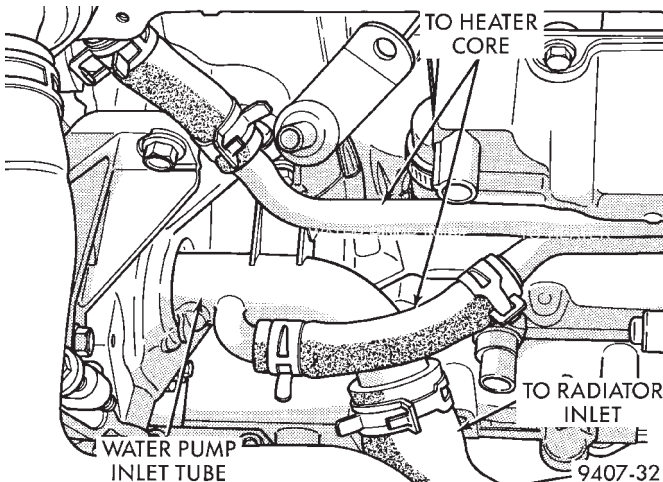
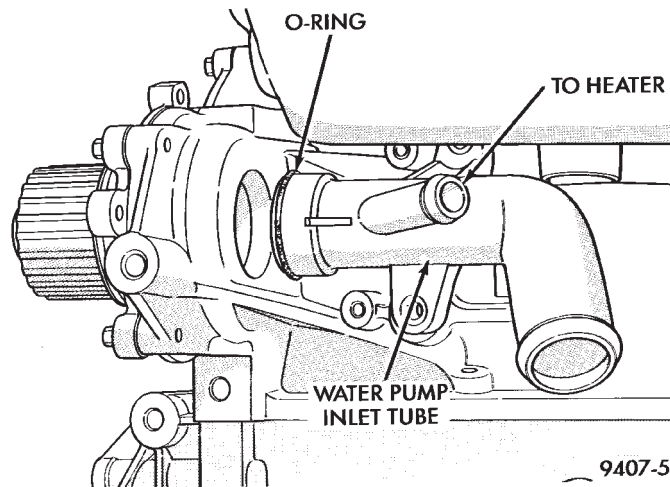

Fig. 27 Water Pump Inlet Tube Hose Connections
Fig. 28 Water Pump Inlet Tube—Service
- (1) Drain cooling system. Refer to procedure outlined in this section.
- (2) Remove upper radiator hose to access the hose connections at the inlet tube.
- (3) Remove lower radiator hose and heater hose from the inlet tube (Fig. 27).
- (4) Remove the 2 fasteners from that hold the inlet tube to the block.
- (5) Rotate tube while removing the tube from the engine block (Fig. 28).
- (1) Inspect the O-ring for damage before installing the tube into the cylinder block (Fig. 28).
- (2) Lube O-ring with coolant and install into the cylinder block opening.
- (4) Connect lower radiator hose and heater hose to inlet tube (Fig. 27).
- (5) Install upper radiator hose.
- (6) Fill cooling system. Refer to procedure outlined in this section.